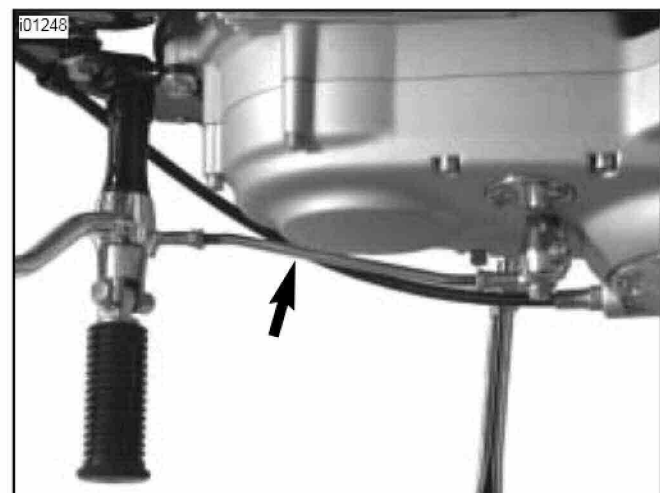

Figure 4. Make Sure Shifter Rod is Positioned as Shown
- Assemble tie rod ends (12) and jam nuts (6) to shift rod (9) and connect assembly to shift lever pedal and shift lever with washers (5) and bolts (1). Make sure that the bends in the shift rod are positioned properly as shown in Figure 4.